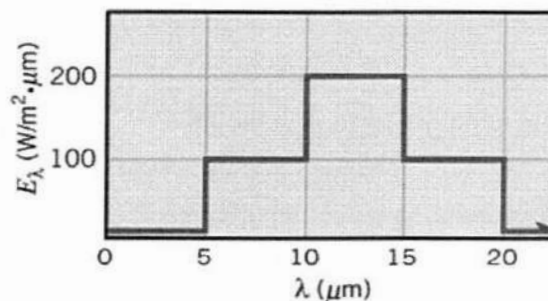

Figure 7(b)
- (c) "The counter flow heat exchanger is more efficient than the parallel flow heat exchanger." Explain the quotation with log mean temperature difference. (15)
7. (a) Prove that the solid angle of a radiative hemisphere is 2π sr. (10)
- (b) The spectral distribution of surface irradiation is shown in Figure 7(b). Calculate the total irradiation. (10)